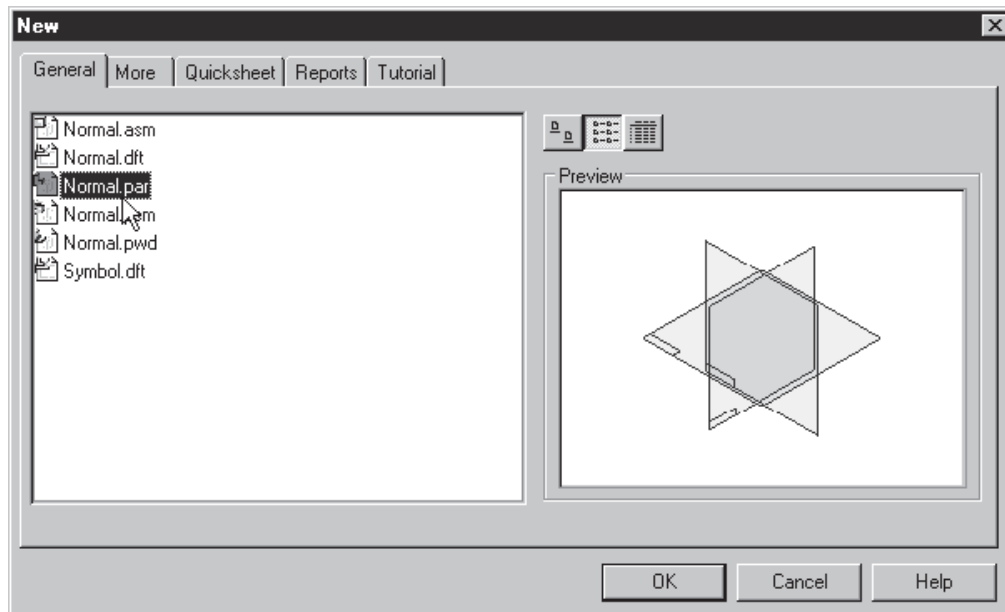

Figure 1-31 The **New** dialog box to start a new file in Solid Edge
2. Select **Normal.par**, as shown in Figure 1-31, and choose **OK** to start a new part file.